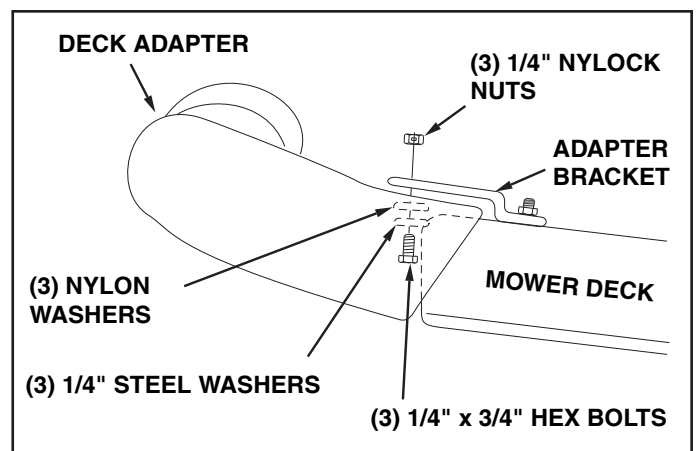

FIGURE 28
7. With deck adapter positioned correctly over the discharge opening, use the adapter bracket as a template and drill three 9/32" diameter holes in the top of the deck adapter. See figure 28.
8. Bolt deck adapter to bracket using three 1/4" x 3/4" bolts, nylon washers, 1/4" flat washers and 1/4" lock nuts. Nylon washers should be against the inside of the deck adapter. See figure 28.